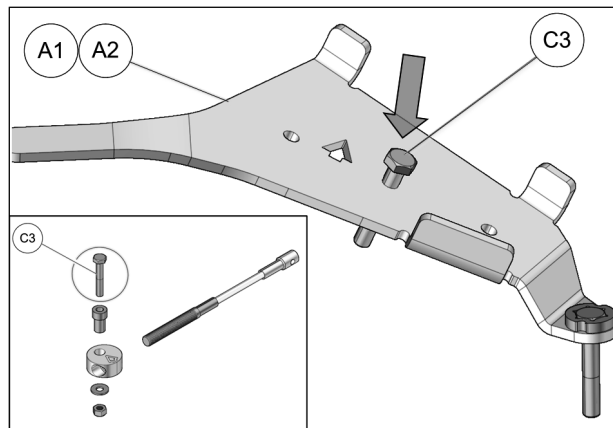

Fig. 14
5. Take the M10x60mm bolts (C3) from the steering limiter parts kit and insert them in the middle hole of each bracket as shown in Fig. 14